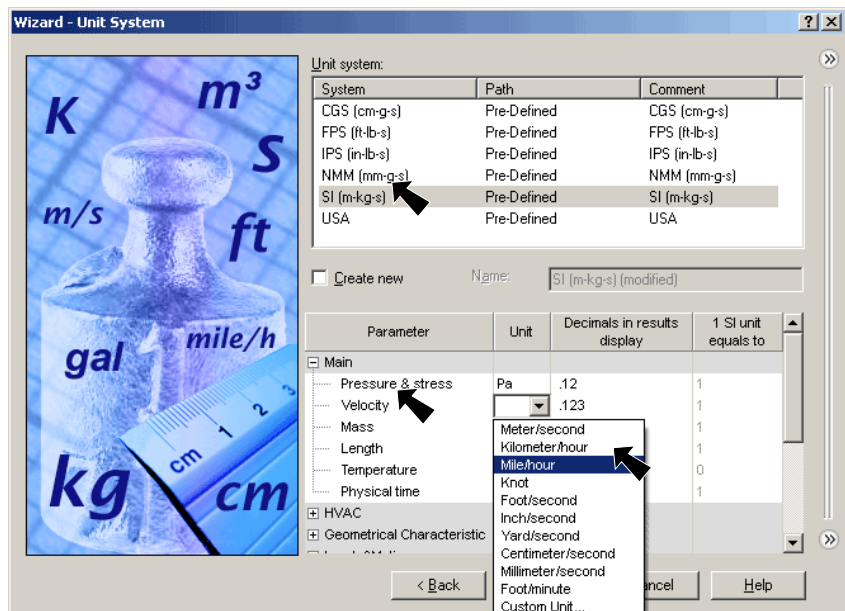

Fig. 3
- Step 5. **Unit System:** Select **SI (m-k-g-s)** for Unit system, **Fig. 3**.
- Step 6. Under Parameter, set **Velocity** units to **Mile/hour**, **Fig. 3**.